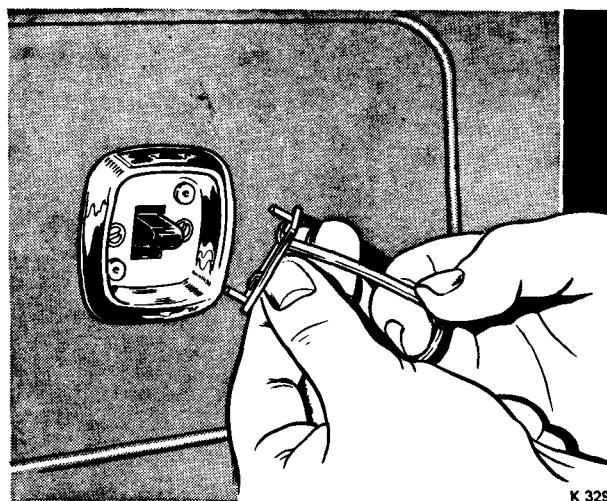

FIG. S5 REMOVING THE ESCUTCHEON COVER FROM AN ELECTRIC WINDOW LIFT SWITCH
4. To facilitate removal of the chromed cover from a window lift switch escutcheon, a tool similar in design to the one shown in Figure S5 should be produced from a strip of spring steel.
A tool similar to the one shown in Figure S5, but having only one leg, will be required to remove the escutcheon cover. Use the tool in a similar manner to that described in Operation 5 for removing the chromed cover from a window lift switch escutcheon.